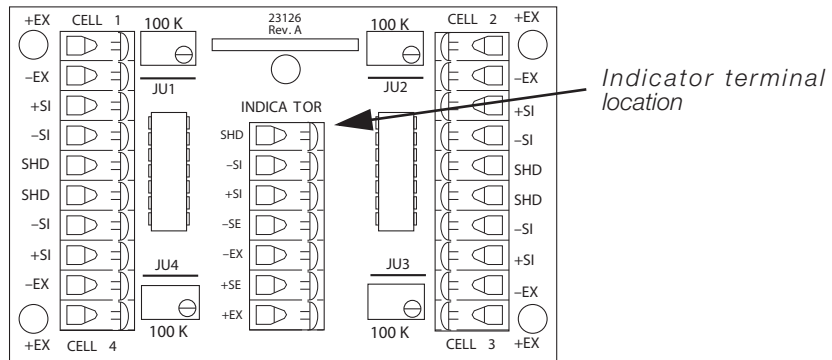

Figure 3-3. Junction Box Wiring Diagram
5. Connect the wires to the indicator terminal (Figure 3-3) as shown in Table 3-1.